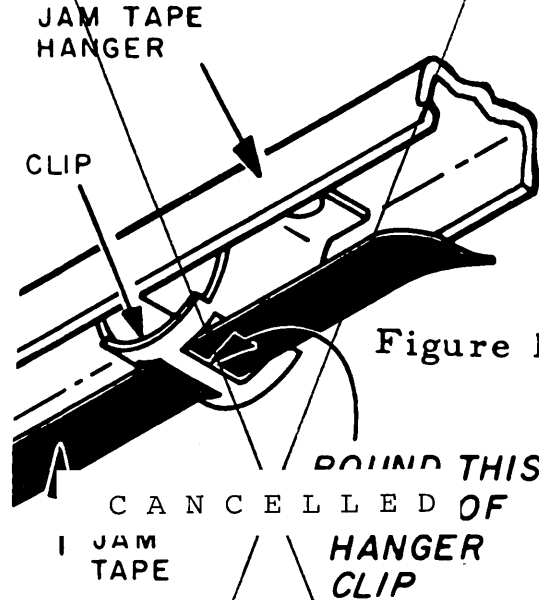

Figure 1
- A Jam tape support clips must be perfectly smooth with no trace of a square edge in the slot. With the jam bar assembly moved toward the left or right end, the clips can be stoned smooth. See Figure 1.